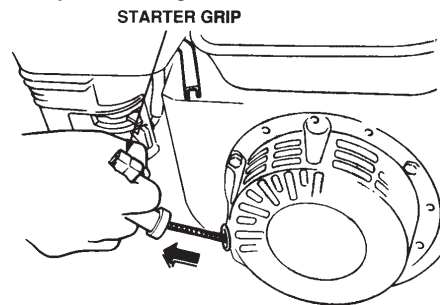

Figure 12. Starter Grip
5. Grasp the starter grip (Figure 12) and slowly pull it out. The resistance becomes the hardest at a certain position, corresponding to the compression point. Pull the starter grip briskly and smoothly for starting.